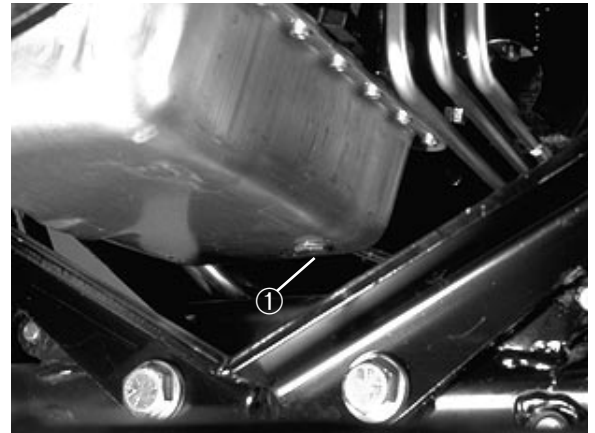

Figure 35
ENGINE OIL AND FILTER (Fig. 35–36)
1. Remove the drain plug (Fig. 35) and let the oil flow into the drain pan. When the oil stops, install the drain plug and the new plug seal, Part No. 74-7850.